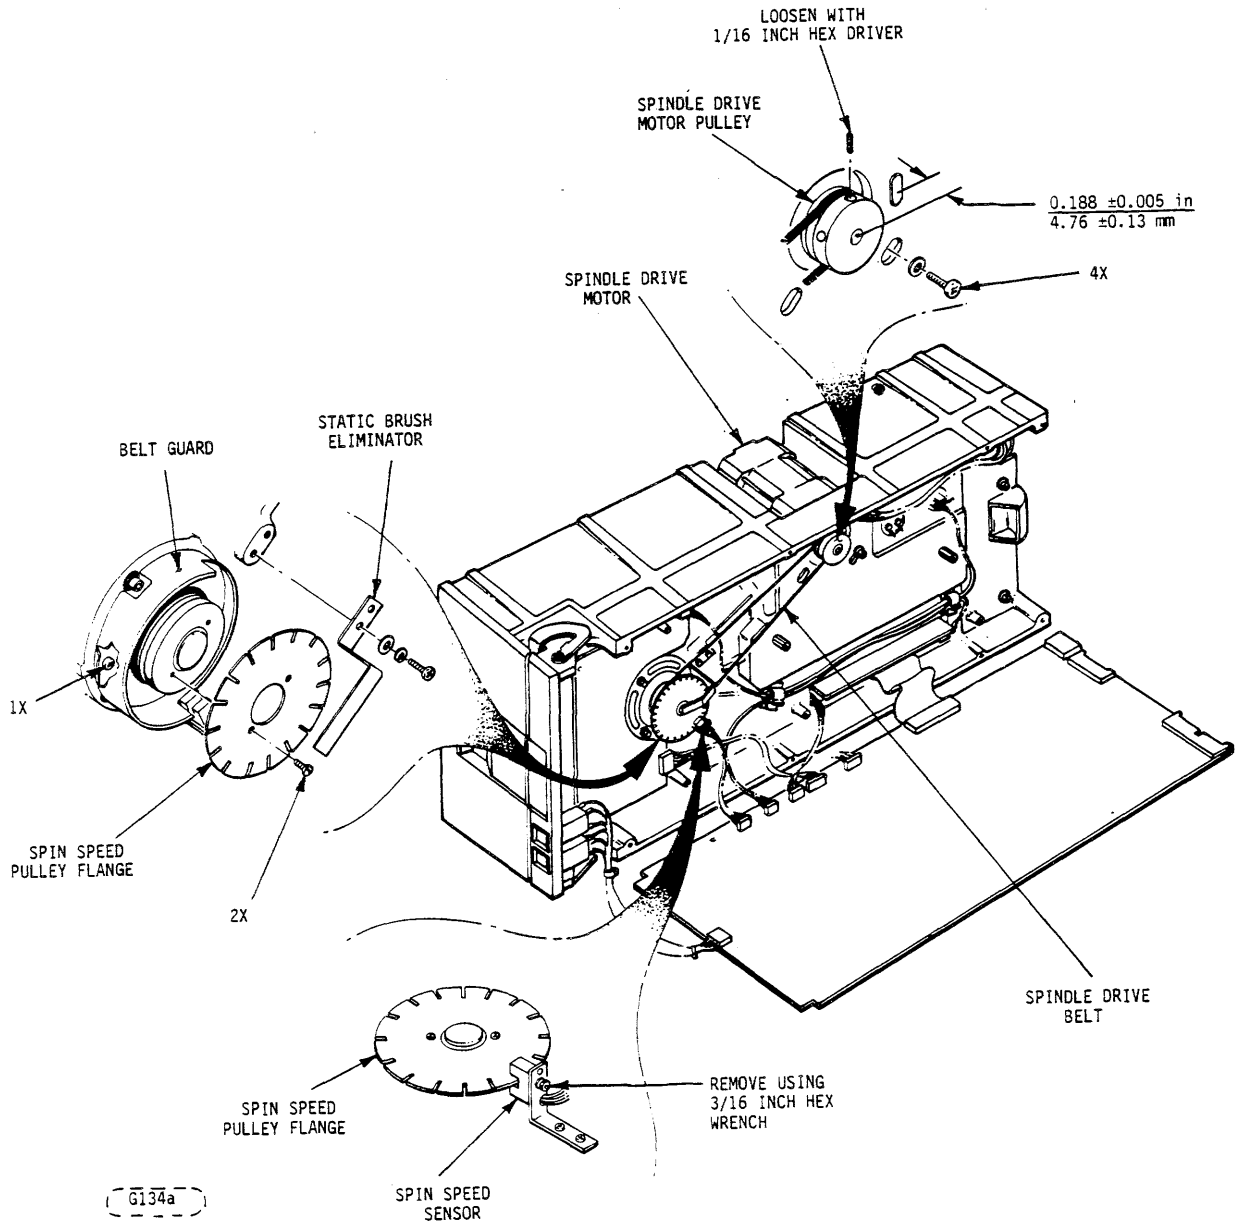

FIGURE 6-4. SUBASSEMBLY REMOVAL AND ADJUSTMENT
2. Remove two (2) screws that secure Static Eliminator Brush to casting (refer to Figure 6-4).
2. Remove one of two screws securing spin speed sensor bracket to casting (refer to Figure 6-4).
4. Remove two (2) screws that secure Spin Speed Pulley Flange to spindle pulley (refer to Figure 6-4).
2. Loosen four (4) screws that hold Spindle Drive Motor in position (refer to Figure 6-4).
1. Install new pulley on motor shaft and adjust position of pulley in accordance with Figure 6-4.
2. Install belt and adjust motor position to obtain belt tension as described in 6.4.2.5 and completely tighten four (4) Spindle Drive Motor mounting screws.
2. Remove two (2) screws that secure rear cover to casting and remove rear cover (refer to Figure 6-4).
6. Remove four (4) screws that hold Spindle Drive Motor in position (refer to Figure 6-4).
3. Loosen four (4) screws that hold Spindle Drive Motor in position and remove belt (refer to Figure 6-4).
4. Remove one (1) screw that secures plastic belt guard.